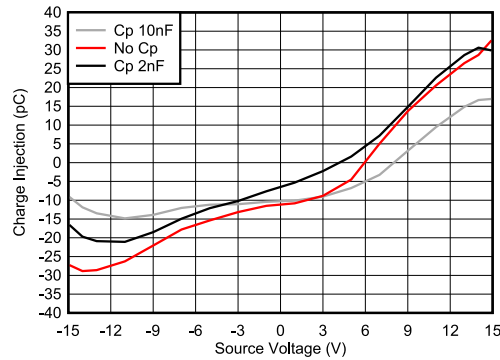

图 7-2. Charge Injection Compensation
The TMUX7219 contains specialized architecture to reduce charge injection on the source (Sx). To further reduce charge injection in a sensitive application, a compensation capacitor (Cp) can be added on the drain (D). This will ensure that excess charge from the switch transition will be pushed into the compensation capacitor on the drain (D) instead of the source (Sx). As a general rule, Cp should be 20× larger than the equivalent load capacitance on the source (Sx). 图 7-2 shows charge injection variation with source voltage with different compensation capacitors on the drain side.